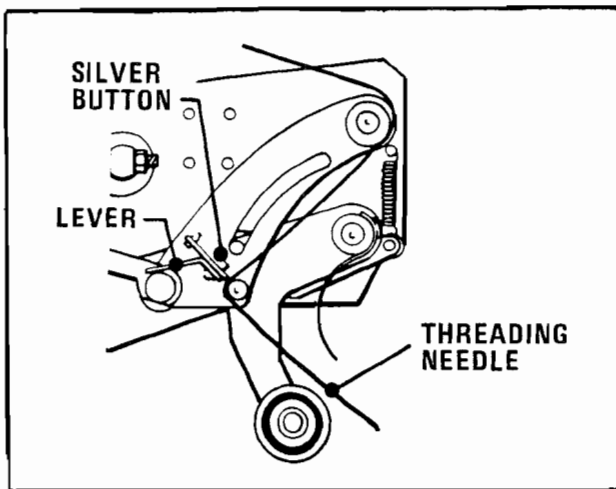

FIGURE 7A
- 3) For subsequent tape loading operation, use the red plastic threading needle and follow the loading procedures from figure 7A to complete the tape threading
FIGURES 7A & 7B - Insert red plastic needle downward around one-way roller as illustrated in figures above. For units using external anti-back up device, illustrated in Figure 7A, press spring away from roller by utilizing silver button or lever allowing needle to pass between tip of spring and roller.